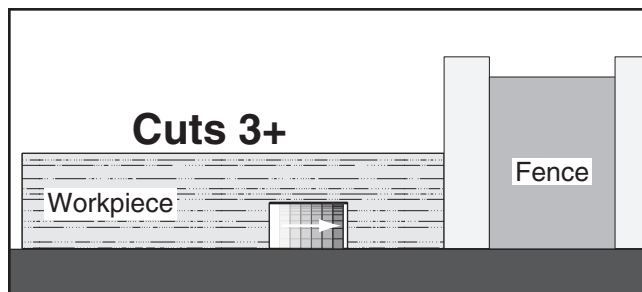

Figure 81. Additional single-blade dado cuts.
9. Make additional cuts (see **Figure 81**) in the center of the dado to clear out the necessary material. The dado is complete when the channel is completely cleared out.